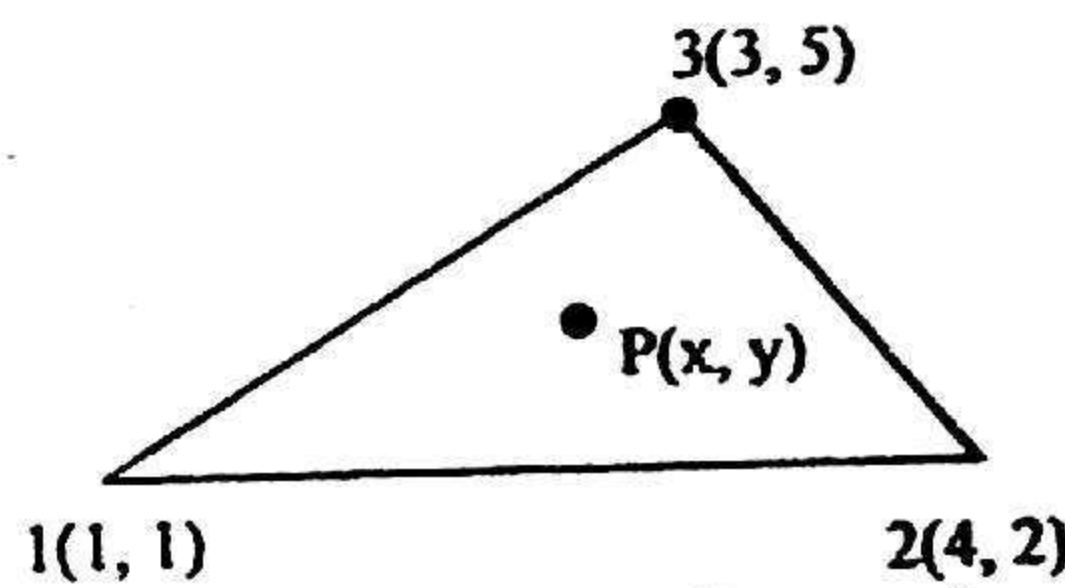

Fig. 8 (a)
8. (a) For point P located inside the triangle as shown in Fig. 8(a). The Shape Function N_1 , N_2 are 0.15 and 0.25 respectively. Determine x and y co-ordinate of P. (5)